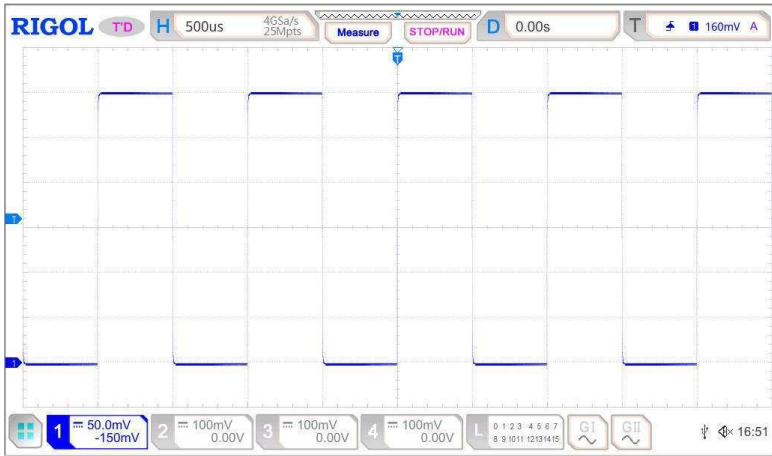

Figure 9 Square Waveform Signal
5. Observe the waveform on the display. In normal condition, the square waveform as shown in Figure 9 should be displayed.